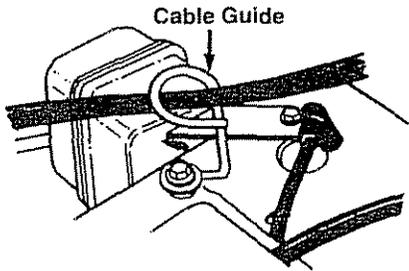

Figure 4
12. If not already attached, slip the cables that run from the handle panel to the chute into the cable guide located on top of the engine. See Figure 4.